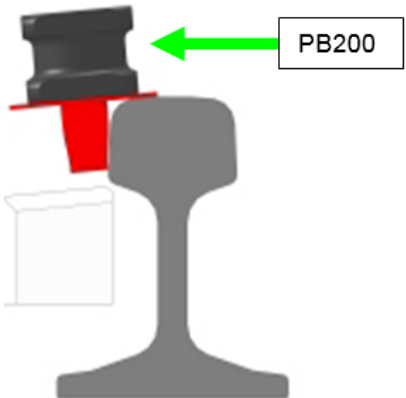

Figure 6 - PB200
3.2 Place the PB200 testing plate on the railhead to the left of the axle counter wheel sensor in the start position (Figure 6).